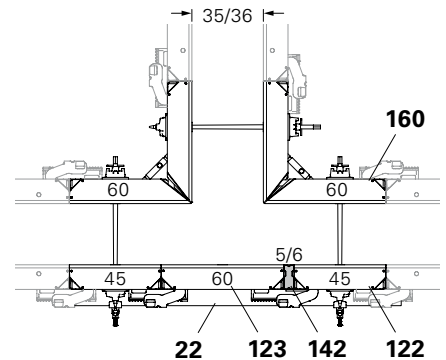

Fig. C5.06
- Wall thickness 35/36: Fig. C5.06